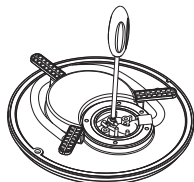

Figure 1
- 1) Push light cable through the silicone gel ring and connect wires and tighten screws. (Figure 1)